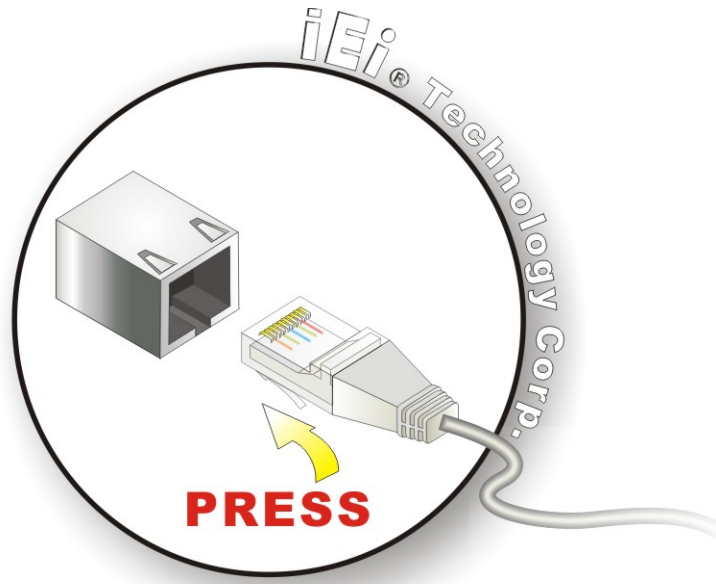

Figure 4-18: LAN Connection
Step 2: Align the connectors. Align the RJ-45 connector on the LAN cable with the RJ-45 connector on the IMB-Q354. See **Figure 4-18**.